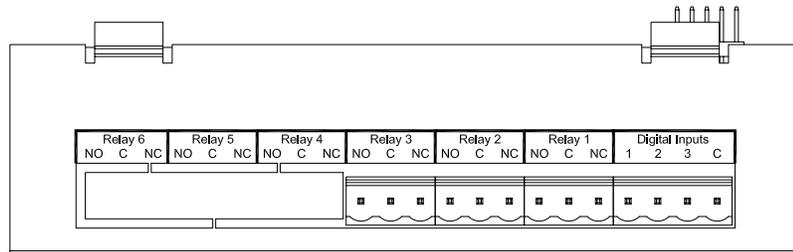

Figure 2-8 Mechanical Relay Connections (3 Channel Shown)
The Recorder may be equipped with an optional Digital Input Output Board which has three or six potential free Form C relay contacts and three opto-isolated digital inputs. A terminal block as shown in Figure 2-8 below, is provided for the three alarm output Potential Free Form C connections: Normally Open (NO), Common (C), and Normally Closed (NC), and the three digital inputs which share a common. The relay contacts are capable of switching 125 Vac ~ at 0.5 Amp or 30 Vdc at 2 Amps. The potential free relay contacts are protected internally with 300 volt Metal Oxide Varistors (MOVs) to prevent contact arcing.